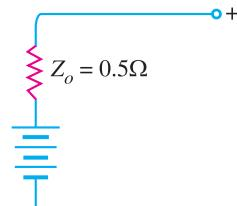

Fig. 17.5
**Solution.** All practical power supplies always have some internal impedance (often called output impedance) which is denoted by  $Z_o$  as shown in Fig. 17.5. It is given by the ratio of change in load voltage to the corresponding change in load current i.e.